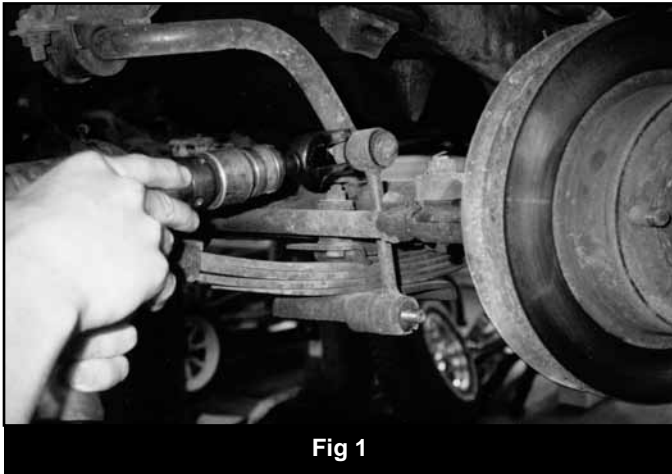

Fig 1
2. Disconnect the front anti-sway bar and remove the OE sway bar links connecting the sway bar to the axle. This will allow the front axle to travel farther down from the vehicle. (Fig 1)